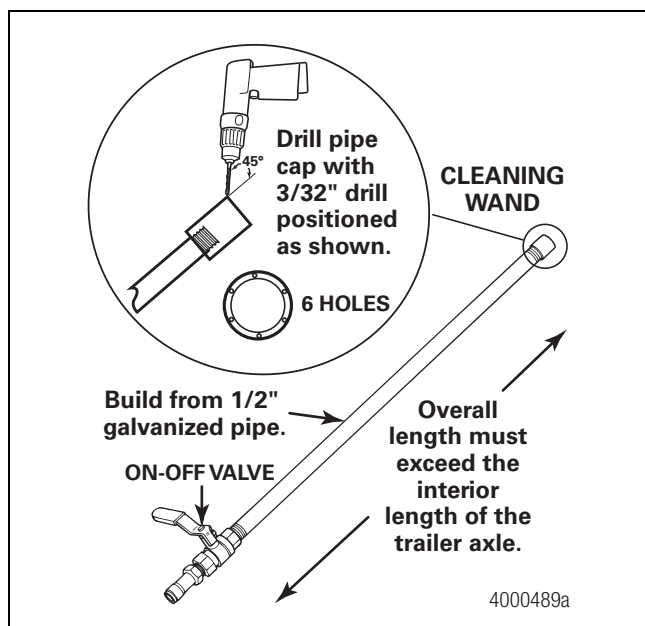
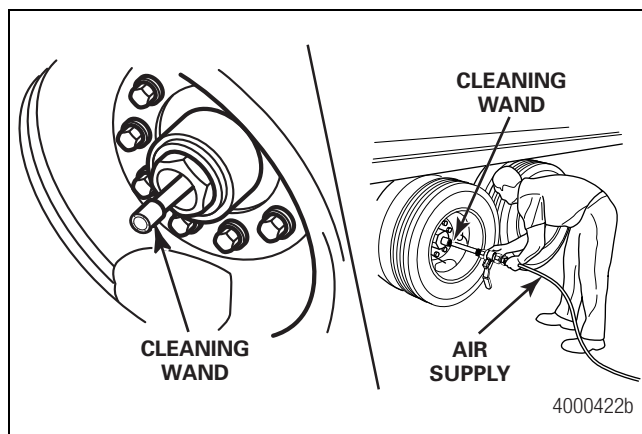

Figure 2.12
Figure 2.13
- Connect a cleaning wand to a high-volume air supply. Refer to Section 7 for information on building a cleaning wand. Figure 2.12. Slowly push the wand through the axle until it exits the opposite end. During this operation, a steady stream of air will be blowing from the axle spindle. Figure 2.13.